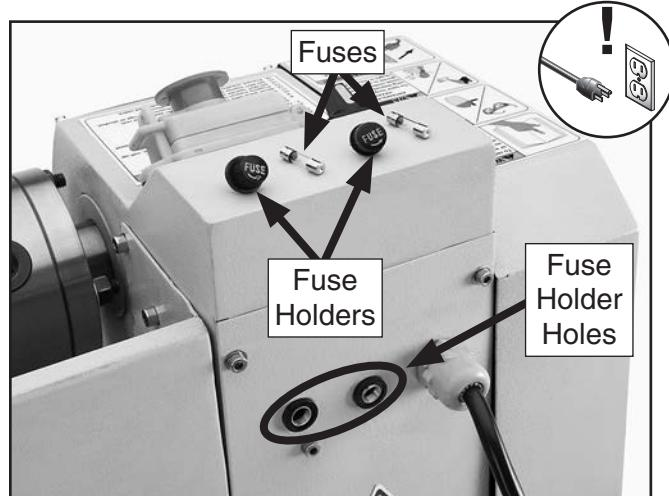

Figure 150. Fuse holders and fuses (Model G0768 shown).
2. Unthread fuse holders (see **Figure 150**) by rotating them counterclockwise, then remove fuses.